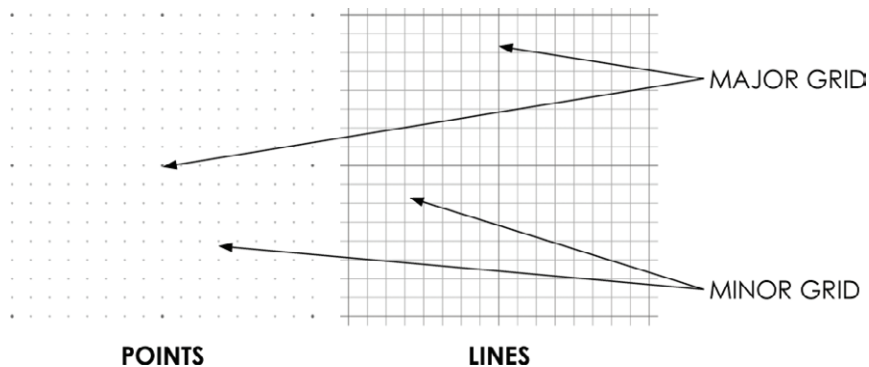

Figure 10.5 The Grid options in LayOut
2. You can use the radio buttons to set the grid type to lines or points. Typically, a traditional line grid is the most useful option (Figure 10.5).